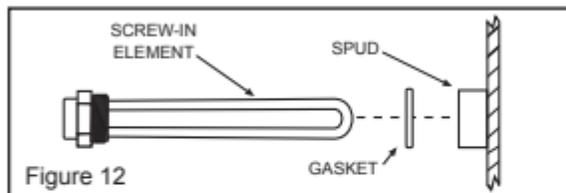

Figure 12
6. Make sure the replacement element(s) has the correct voltage and wattage rating by matching it to the rating plate on the water heater. Position the new gasket(s) on the element and insert it into the water heater tank (Figure 12). Tighten the element by turning it clockwise until secure.